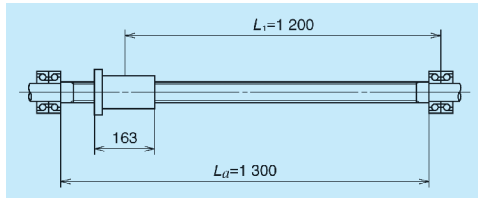

Fig. 17.5 Examination of buckling load
(1) Permissible axial load
Calculate the buckling load for conditions shown in Fig. 17.5 with P of 10 354 (N) and L_1 of 1 200 (mm).